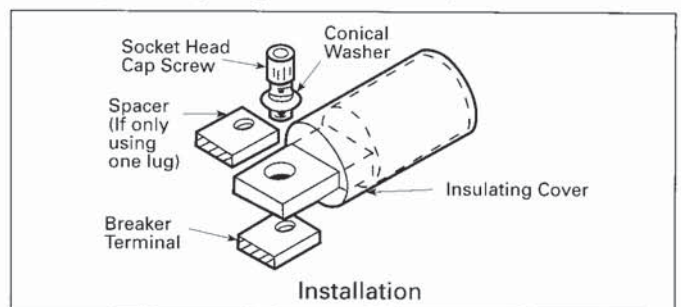

Figure 3
- Slip insulating cover over connector tang and then over connector barrel so that only the connector tang is exposed (Figure 3).
- Position connector tang on top of the circuit breaker terminal pad and secure with 3/8-16 x 1-1/2" socket head cap screw and conical spring washer. Conical spring washer is to be installed with convex side of washer toward underside of screw head (Figure 3). Torque screw to 228 in-lbs.